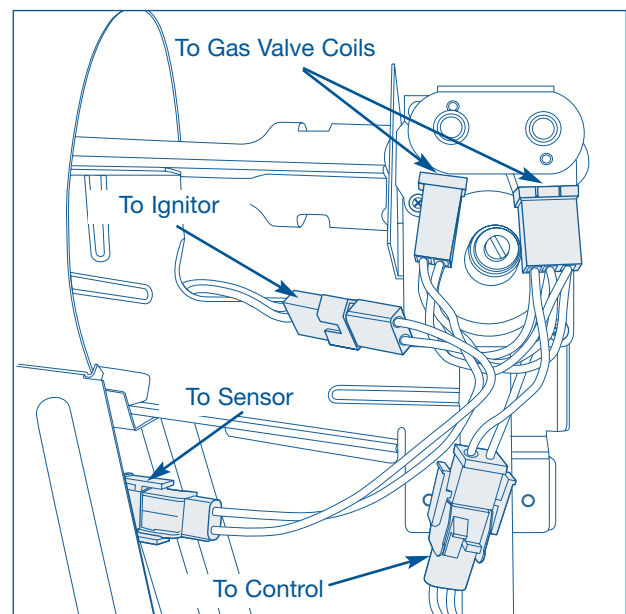

Figure 4-50.
3. Disconnect from the Molex connectors for the ignitor, sensor and main wire harness. (See Figure 4-50)